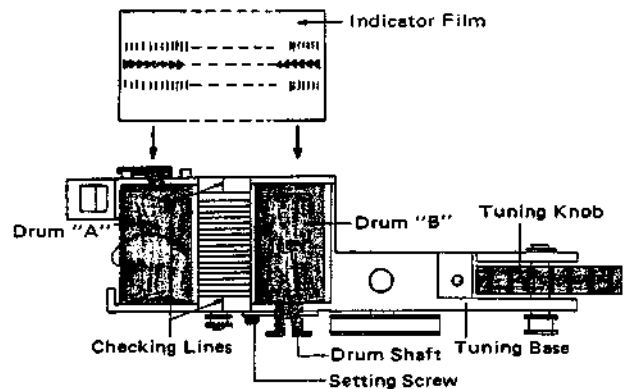

Fig. 30
2. Turn drum "A" indicated in Fig. 30 10 times clockwise previously and stick left end of dial indicator film to drum "A". Then the film will be wound up to drum "A".
4. Unfasten a setting screw fastening drum shaft of drum "B" and pull up drum shaft a little from drum "B" (Fig. 30).